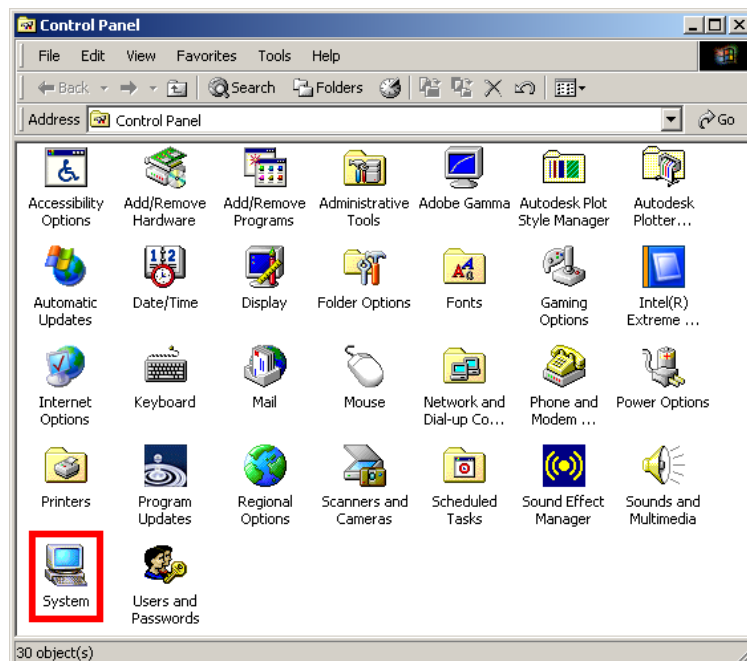

Figure 7-17: System Icon
Step 2: Double-click the **System** icon (Figure 7-17).